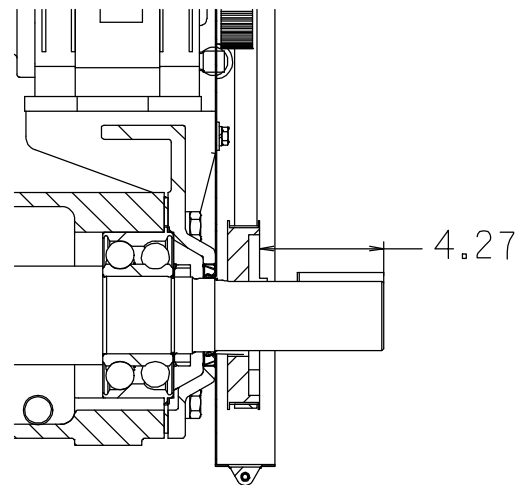

Figure 6. Drive Sprocket Positioning
keyway for the drive key (26, Figure 2). Install the bushing (33) and sprocket (32) on the shaft to the dimension shown in Figure 6.